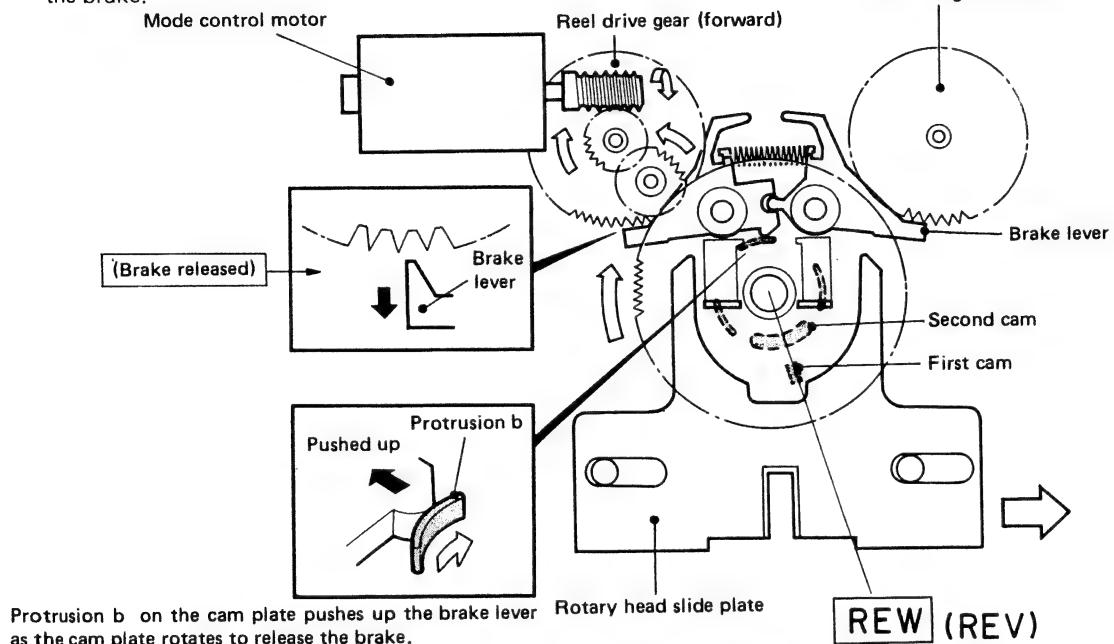

Fig. 9a (rear view)
- In this state of the mechanism, the brake cam turns in the direction of the arrow in Fig. 9a to release the brake.